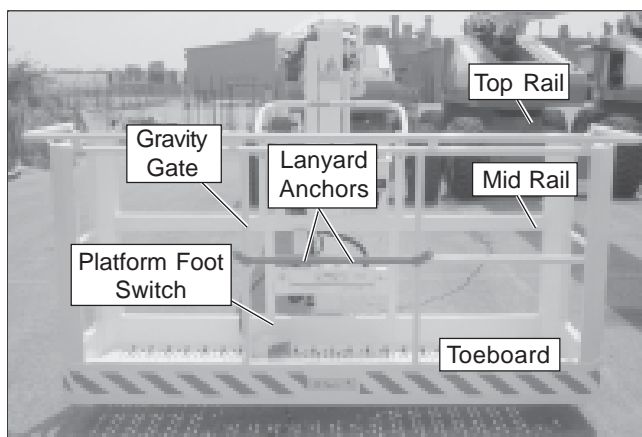

Figure 10.4 – Platform Foot Switch
3. Step down on the platform foot switch (refer to Figure 10.4).